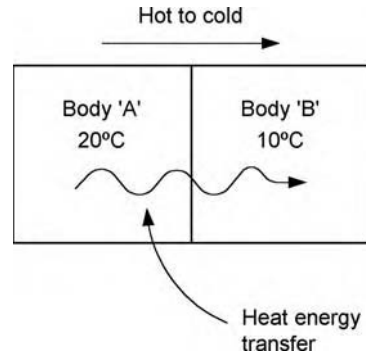

Figure 4.97 Heat energy transfer.
A modern idea of heat is that it is energy in transition and cannot be stored by matter. Heat (Q) may be defined as: *transient energy brought about by the interaction of bodies by virtue of their temperature difference when they communicate*. Matter possesses stored energy but not transient (moving) energy, such as heat or work. Heat energy can only travel or *transfer* from a hot body to a cold body, it cannot travel up hill, Figure 4.97 illustrates this fact.